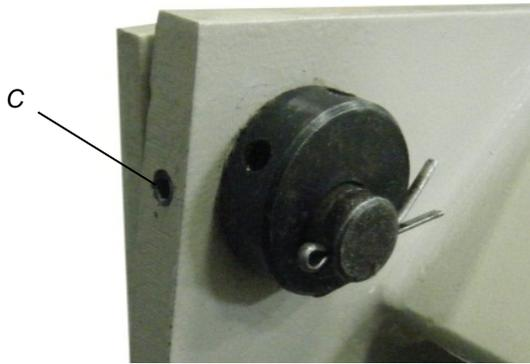

Figure 6-8
2. Loosen the setscrews (**C**) at the back of the hold down assembly (fig. 6-8).